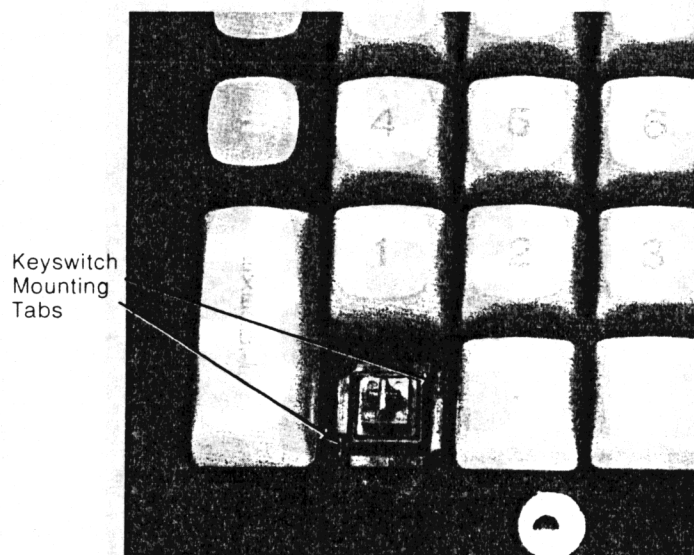

Figure 2-13 Removing a Key Switch
- Press in on the two tabs (Figure 2-13) that hold the key switch in place and pull the switch up out of the switch mounting plate.